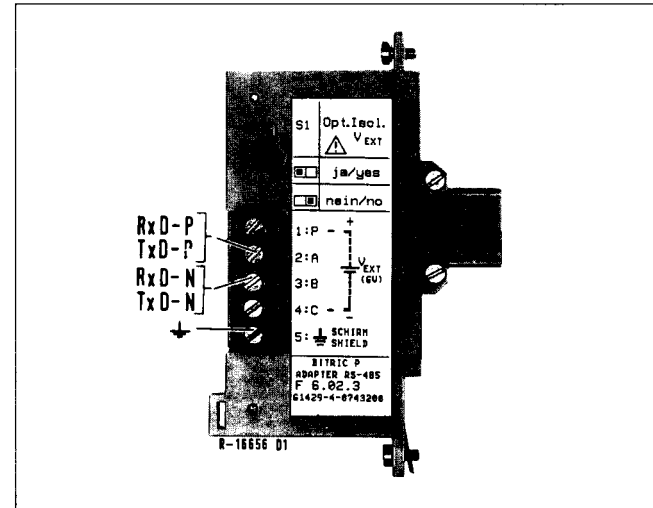

Fig. 11 Connection of serial interface RS-485
The serial interface RS-485 (Fig. 11) can be supplied as option or for a subsequent extension.
| Terminal 1 (P) | } if nec.: (+) V_{ext} (see Fig. 11) 2 data wires Must not be mixed up. Reference conductors: 3 or resp. remaining wires in parallel and, if nec., (-) V_{ext} (see Fig. 11) Cable shield |